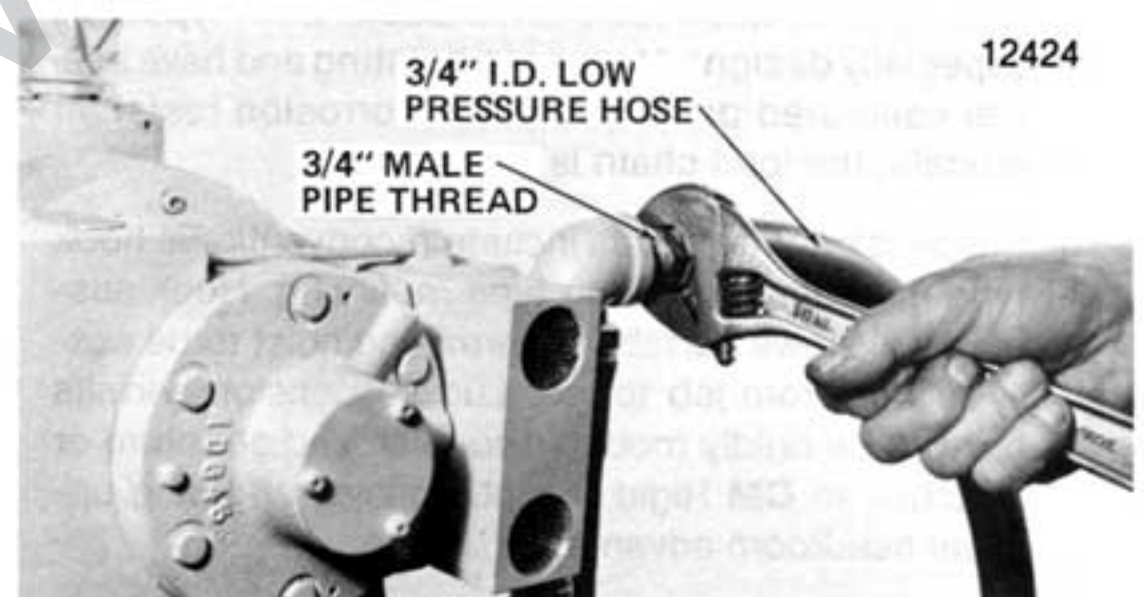

Figure 2-1. Connecting Air Hose to Hoist.
- a. Connect hoist to nearest filtered and lubricated air source using 3/4" I.D. air hose (see Figure 2-1). Avoid use of hose assemblies of smaller diameters that will cause air flow restrictions and reduce hoist performance.